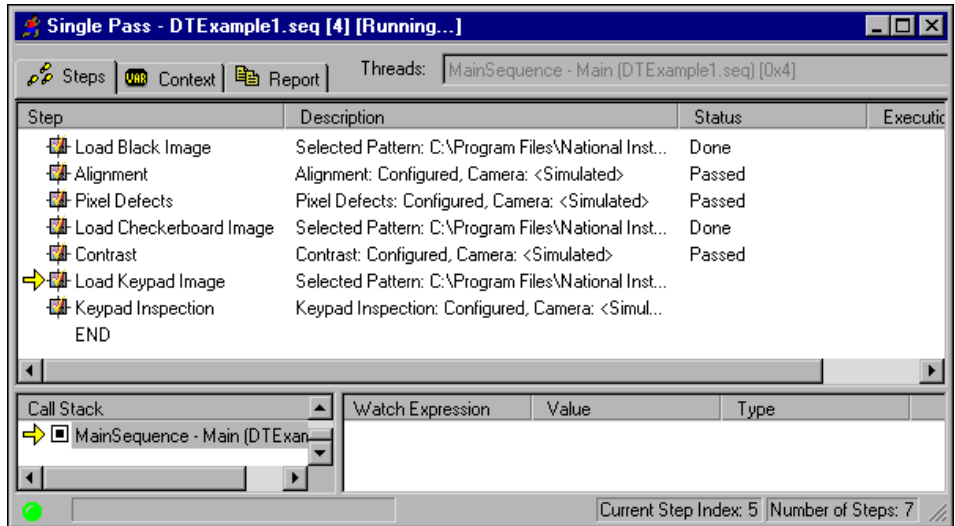

Figure 2-11. DTEExample1.seq Execution Window
1. Select **Execute»Single Pass**. The sequence editor opens the *Execution window*, as shown in Figure 2-11. In an Execution window, you can view steps as they execute, the values of variables and properties, and the test report when the execution completes.